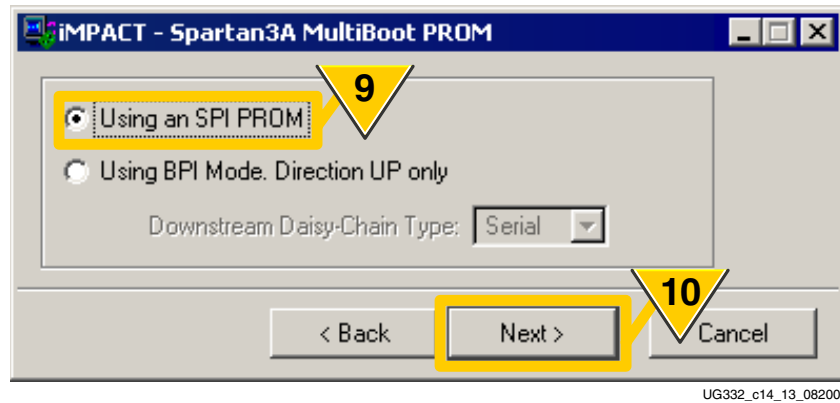

Figure 14-14: SPI or Parallel Flash PROMs are Supported
- As shown in Figure 14-14, choose whether to create a Spartan-3A/3AN/3A DSP MultiBoot image for SPI serial Flash or for parallel NOR Flash, using BPI mode. This example uses an SPI PROM.